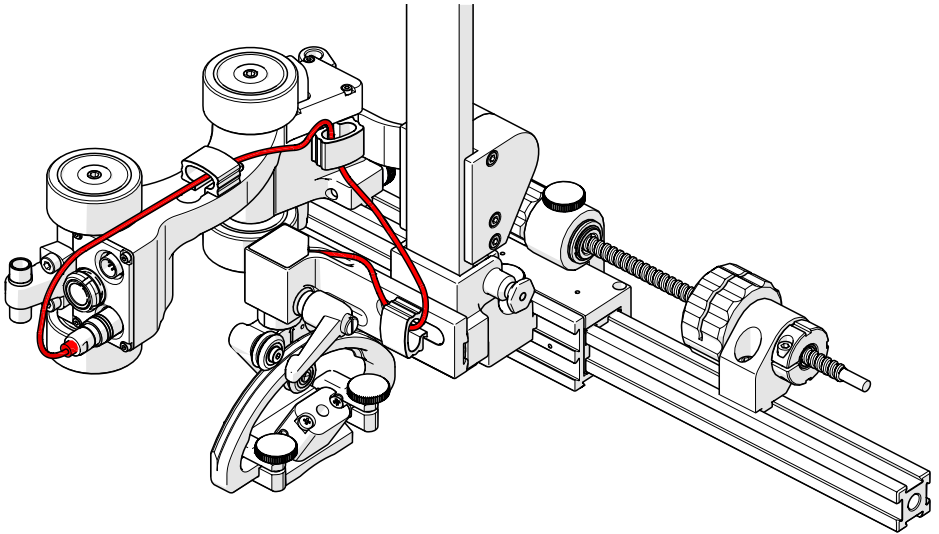

Fig. 53 - Clamp probe with arms and tighten knobs
8. Route the skew encoder cable through the required cable clips (Fig. 53).
9. Plug the skew encoder cable into ENC 2 at the rear of the low profile link (Fig. 53).